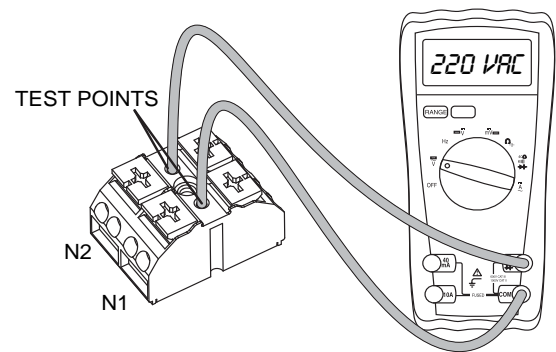

Figure 9. Terminal Block Test Points
3. See Figure 9. Connect one test lead to Wire N1 at the terminal block in the generator control panel. Connect the other test lead to Wire N2. Utility line-to-line voltage should be measured.
4. Connect one meter test lead to Wire N1. Connect the other meter test lead to Wire N2. Approximately 220 VAC should be measured. See Figure 9.